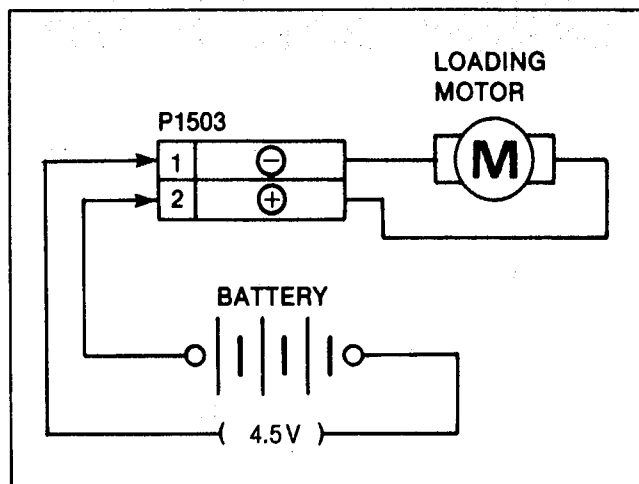

Fig. S8
- 1) Connect the battery (Manganese-Type R6 (AA) 3pcs./+4.5V) to P1503 as shown in Fig.S8, S9.